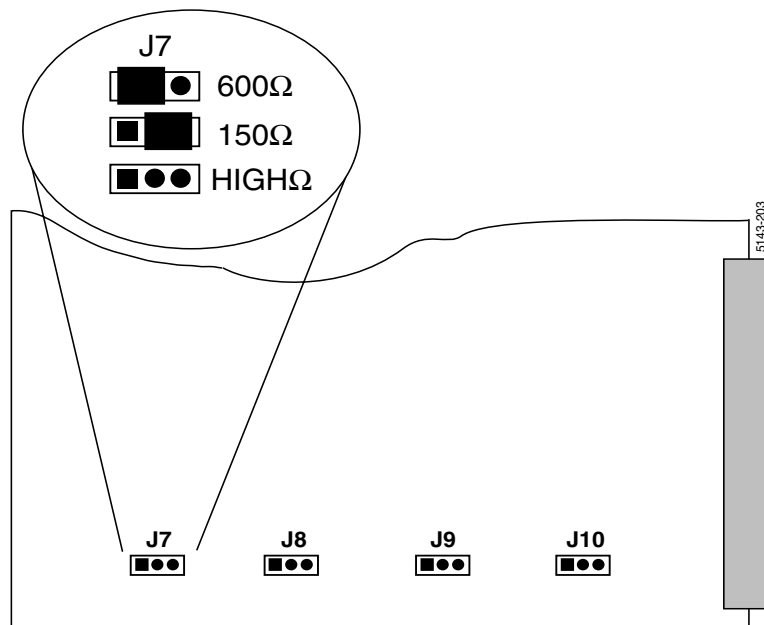

Figure 2-50. Audio Input Jumper Settings
1. Remove the Audio Input module from the frame, and place on a flat, level, static-free surface with the module orientation as shown in Figure 2-50.